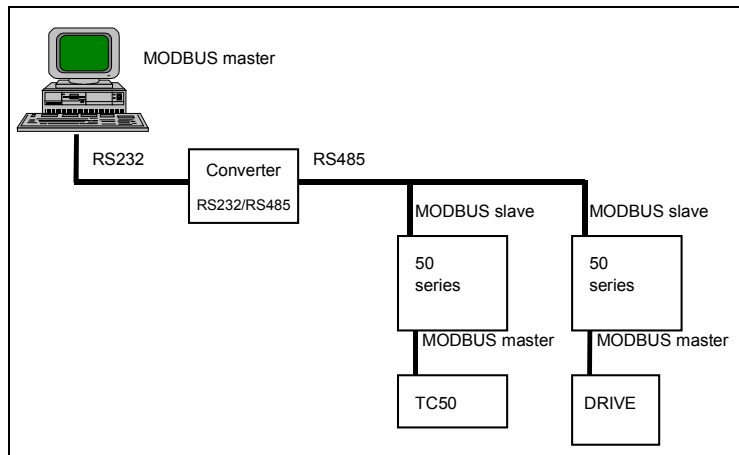

Figure 7-4 : Network connection with a PC
- **Network connection with a PC (see Figure 7-4)**